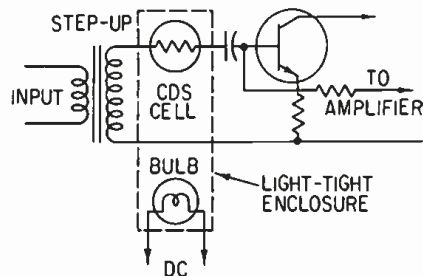
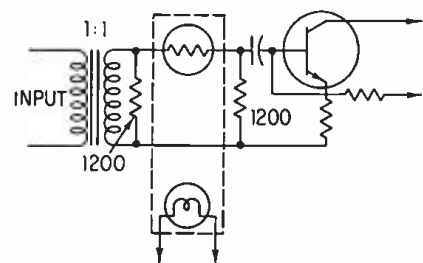

Figure 2. This illustrates the improper use of a cadmium-sulfide cell as a switch.
Figure 3. This modification of the circuit in Figure 2 significantly improves the characteristics of attenuation.
While this could not have been entirely prevented, it can be minimized to the point where it is no longer a practical problem. Let us examine the circuit. In FIGURE 2 the cell is being illuminated by a bulb, completing the path for the signal from the transformer secondary to the input of the amplifier. While the bulb is on, the transformer is terminated by the input impedance of the amplifier. The cell, with low resistance, provides a loss-free path for the audio in the circuit where the impedances are of several thousand ohms. If the impedance of the amplifier input is 50k ohms and the cell has a maximum resistance of 10 megohms, the maximum attenuation of the circuit will be 46 dB. But it may take the cell several seconds to reach maximum resistance, though it will achieve a few thousand ohms in
In FIGURE 3 a few dB of gain obtained from the transformer have been sacrificed. Now the situation looks like this: the secondary impedance of the transformer is 600 ohms with a fixed resistor connected across it. 1200 ohms is a proper value. The cell is still connected as in the circuit shown in FIGURE 2, but the amplifier input is now terminated by another 1200-ohm resistor.
In the grounded-emitter, reflection inverts the impedance. So a series capacitor at the collector reflects back as a shunt inductance, and a shunt capacitor reflects as a series inductance (FIGURE 2). The equivalent values will never cause peaking (which might prove convenient), they always augment the loss with the result that feedback can never sharpen up the response enough, to follow the predicted change.
Figure 2. A series capacitor at the collector of a transistor reflects back as a shunt inductance (A), while a shunt capacitor (B) reflects as a series inductance.